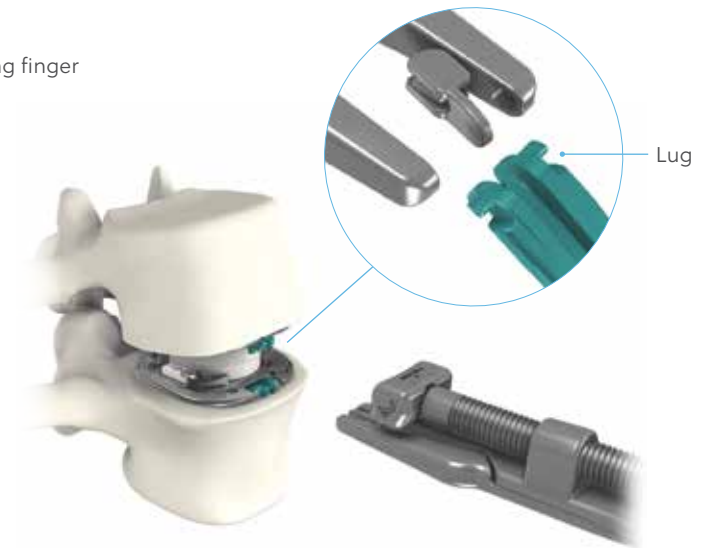

Figure 52
- Position the jaw with the unlocking finger on the anchoring clip's lug. The unlocking finger must be in the center of the anchoring clip between the two lugs (**Figure 52**).